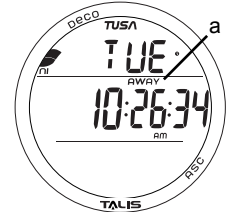

Fig. 7B - DEFAULT TIME (away, Alternate selected)
Alternate Time, which is set by Hour Differential, is the Time at a remote location (away). Upon arrival at the location, Alternate Time, identified by the AWAY icon (Fig. 7B a), can be selected to be the Watch Default Time.
- > Time of Day (hr:min:sec) with AM (or PM) icon if 12 Hour Format, no icon if 24 Hour; and AWAY icon (Fig. 7B a) if Alternate Time is selected to be the Default Time.